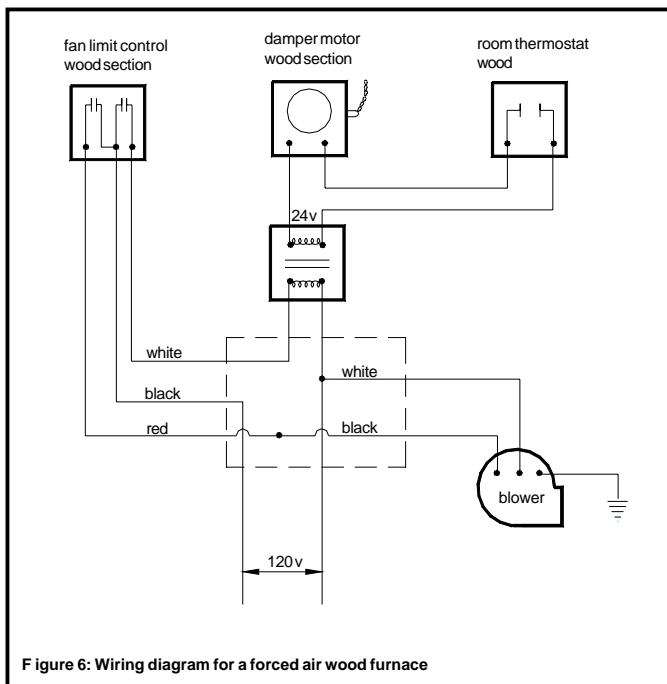

Figure 6: Wiring diagram for a forced air wood furnace
5. Connect the wiring as shown in Figure 6.